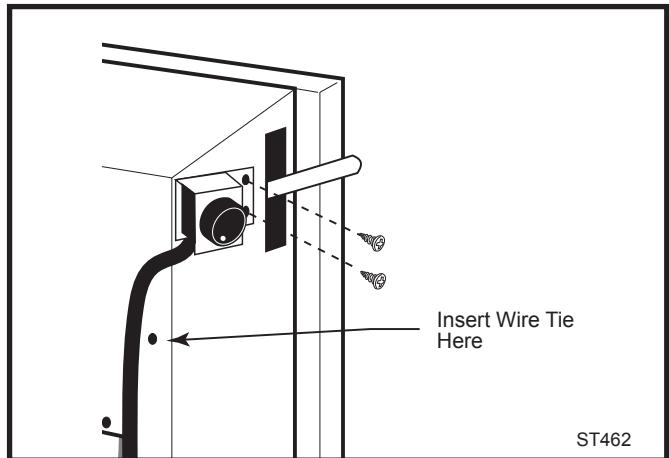

Fig. 20 Attach the rheostat switch and wire tie.
2. Attach the Switch Bracket to the left side of the Rear Shroud using two sheet metal screws as shown in Figure 20.
3. Secure the fan wire harness to the back of the Shroud using the Wire Tie plug as shown in Figure 20.